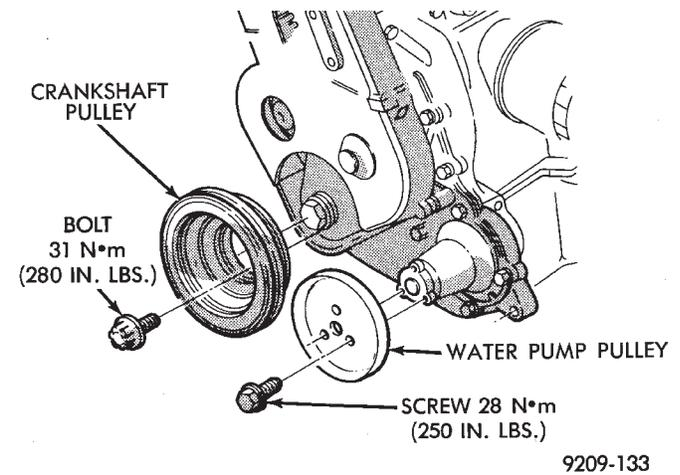

Fig. 3 Crankshaft and Water Pump Pulleys
- (4) Remove water pump pulley and crankshaft pulley retaining bolts (Fig. 3), remove pulleys.
(3) Install crankshaft and water pump pulleys (Fig. 3).